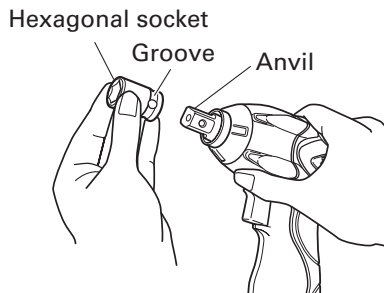

Fig. 14
5. Installing a socket (Fig. 14, 15-1) (WR12DM2)
6. Retaining ring type (Fig. 14, 15-2) (WR9DM2)